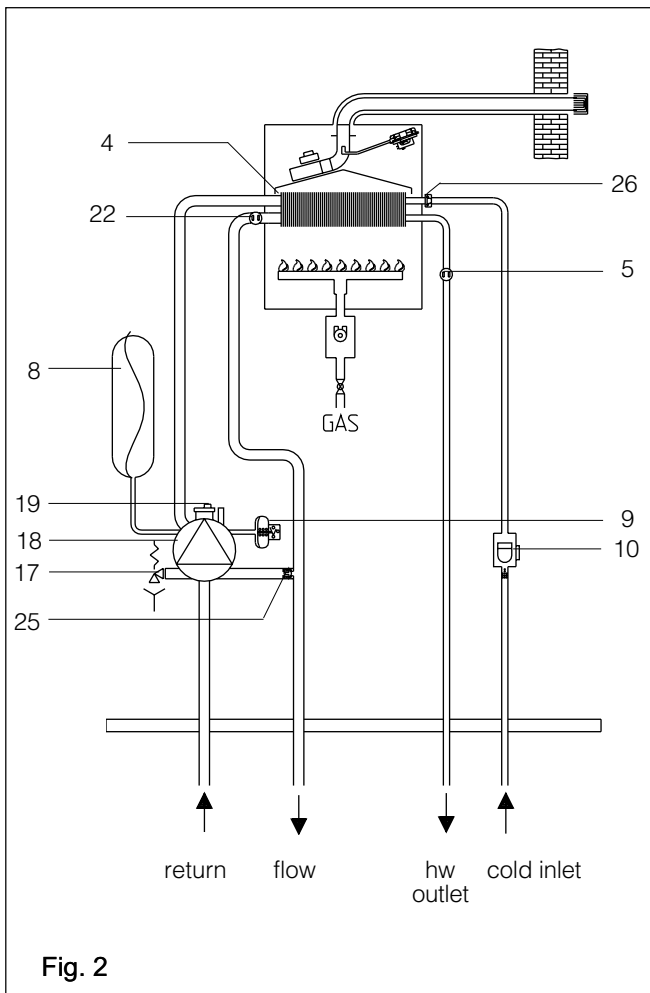

Fig. 2
- 25 Auto by pass (fig. 2)
- 26 Water flow restrictor (fig. 2)